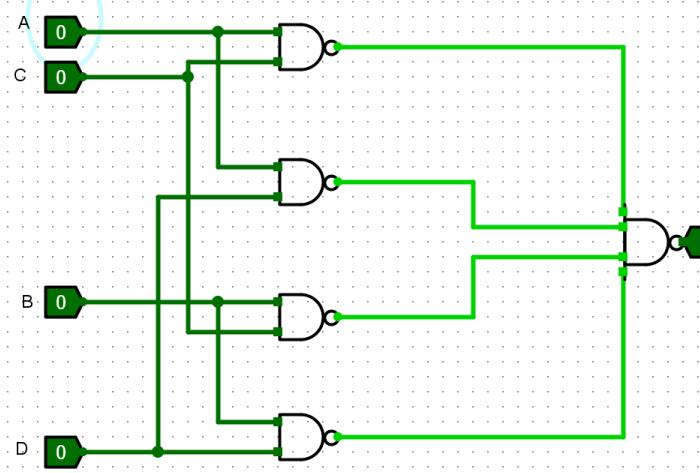

Figure 2-12
43. Construct the circuit shown in Figure 2-12. Remember to connect +5V to all unused inputs.
44. Write the output equation of the circuit in Figure 2-12. Compare it to the expression you derived in Step 42.